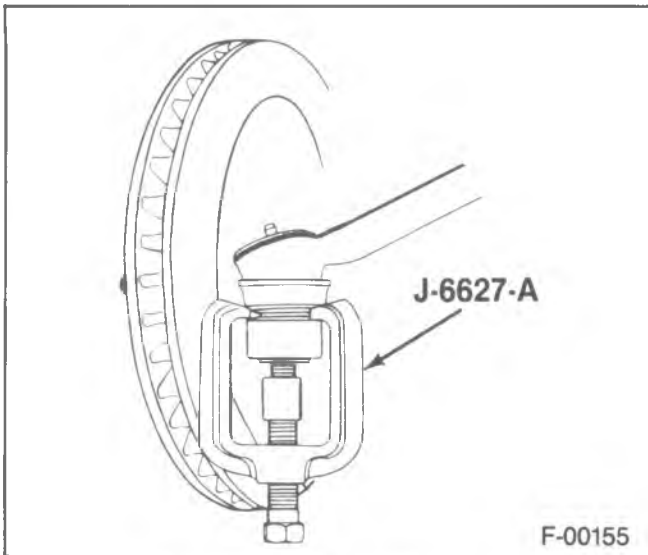

Figure 9—Ball Stud Removal
2. Outer tie rod ball studs from the steering knuckle (4). Use J-6627-A (figure 9).
3. Inner tie rod ball stud from the relay rod (2). Use J-6627-A.